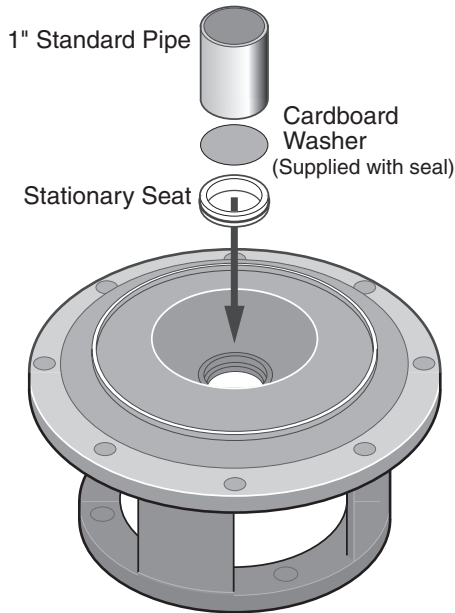

**Figure 5**
9. Place adapter/seal plate face down on bench and drive old stationary half of seal out of adapter/seal plate by carefully tapping with screwdriver and hammer (Figure 5).